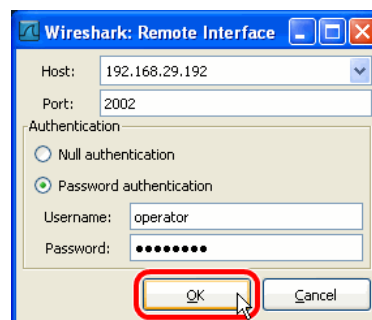

Figure 78: Wireshark Remote Interface Dialog.
- Enter the correct settings for **Host** and **Port** (default 2002) and, if authentication is enabled, enter **Username** and **Password** in the corresponding fields as shown in Figure 78.